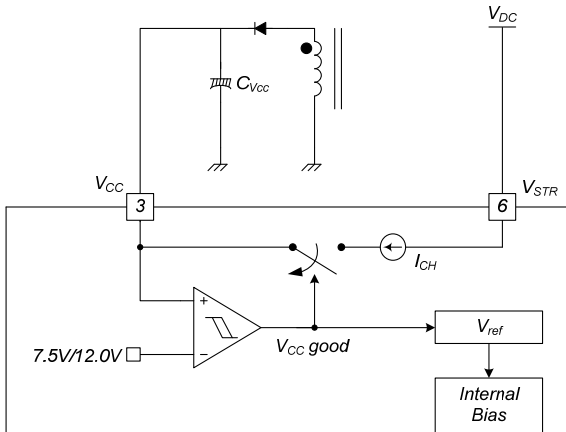

Figure 17. Startup Block
**1. Startup:** At startup, an internal high-voltage current source supplies the internal bias and charges the external capacitor ( $C_{VCC}$ ) connected to the  $V_{CC}$  pin, as illustrated in Figure 17. When  $V_{CC}$  reaches 12 V, the FSD176MRT begins switching and the internal high-voltage current source is disabled. The FSD176MRT continues normal switching operation and the power is supplied from the auxiliary transformer winding unless  $V_{CC}$  goes below the stop voltage of 7.5 V.